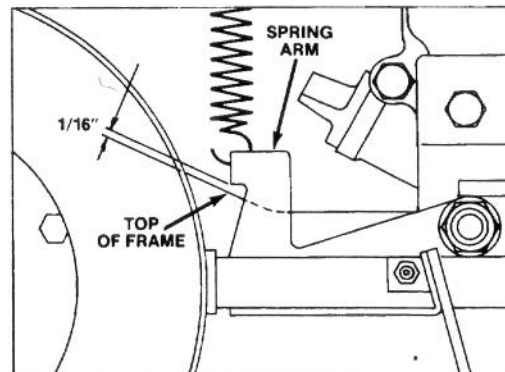

Figure 4
3. CHECK ADJUSTMENT — When blade/clutch lever is squeezed against handle, distance between top of wheel frame and bottom of spring arm must be  $1/16$ " (Fig. 4). If adjustment is correct, go to step 4. If adjustment is required, remove ball joint from pivot lever and go to step 3A or 3B.